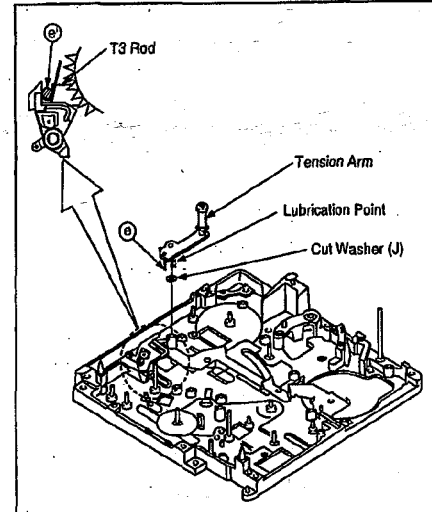

Fig. M13
| 8. Tension Arm Unit               | Fig. M13 | Turn the Mode Gear to counter-clockwise until Tension Arm Unit slightly move to loading direction.Remove the Tension Arm Unit and Cut Washer (J).The projection (e) on Tension Arm meets guide (e') on the T3 Rod which is shifted by turning Mode Gear. |